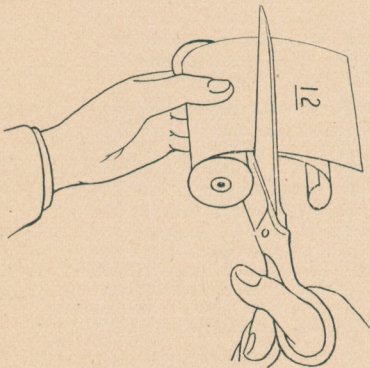

Fig. 1.--RIGHT.
2. Unroll the film and cut the exposures apart as shown in Fig. 1.